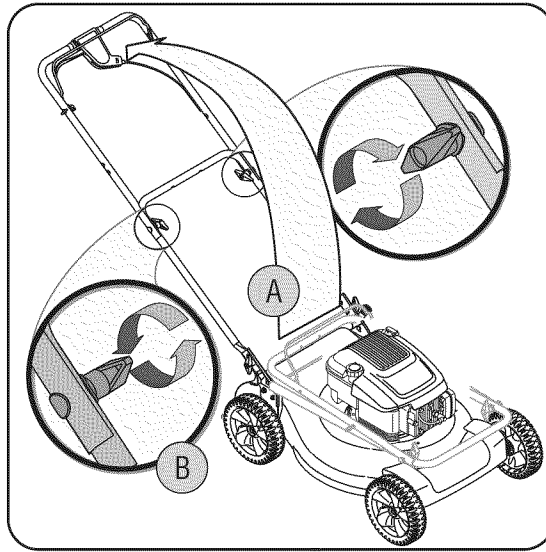

Figure 1
- a. Remove hand knobs from handle brackets and pull up and back on upper handle as shown in Figure 1. Make certain the lower handle is seated securely into the handle mounting brackets.